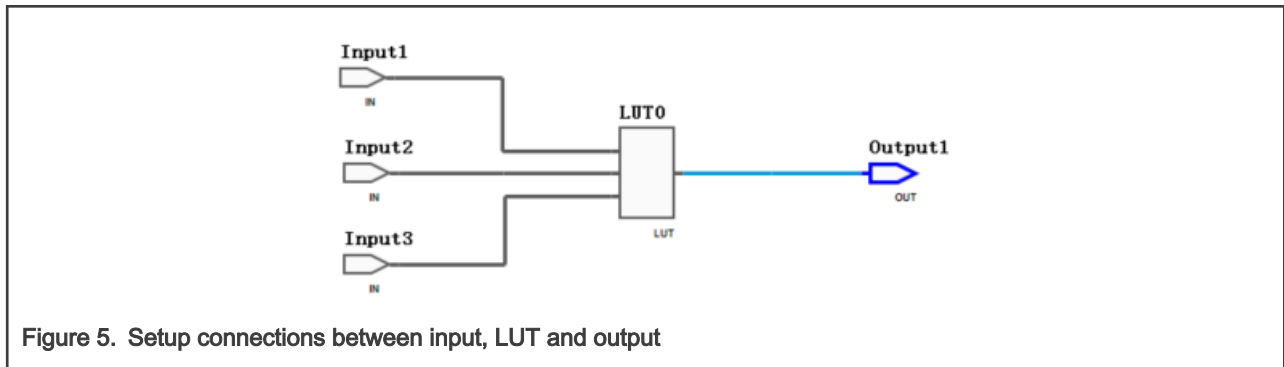

Figure 5. Setup connections between input, LUT and output
1. Open the PLU Config tool and choose working flow for Direct, LUT-based design. Place Input ports 1, 2, and 3, then output1 and LUT0 in the schematic, draw the connections between inputs, LUT and output, as shown in Figure 5.